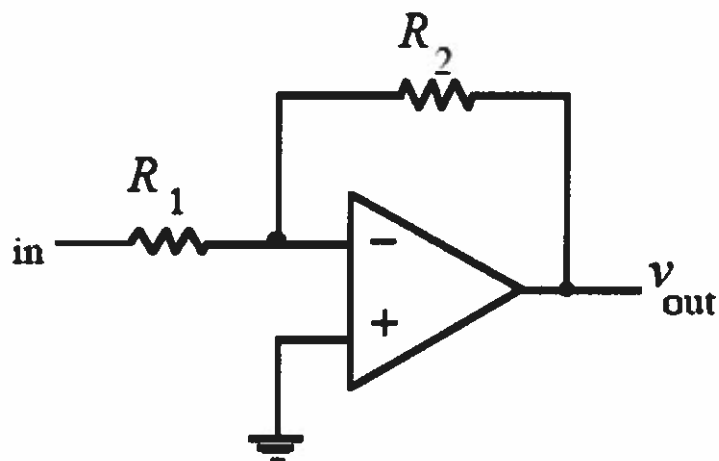

Figure 2. Schematic of Inverting Op-Amp
1. Construct the circuit shown in Figure 2.